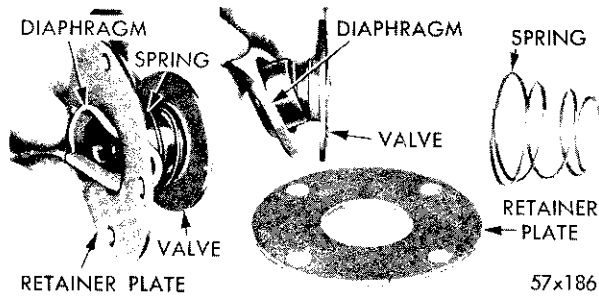

Fig. 51—Disassembling the Valve
(5) Remove the valve retaining plate from the diaphragm by compressing diaphragm, as shown in Figure 51. Remove the spring, then peel the diaphragm from the valve.
(14) Slide the small diameter of the valve diaphragm over the small shoulder on the valve, as shown in Figure 51.
(15) Compress the diaphragm enough to allow the valve spring to be installed (small diameter first) down against the valve plate. Holding the diaphragm compressed, install the retainer plate. Seat the plate evenly on diaphragm.
(16) Center the valve and retainer plate on the piston. Place the vacuum tube and pin housing on the retainer plate, making certain that the bead of the diaphragm is in the annular groove of the housing and that the screw holes are aligned.